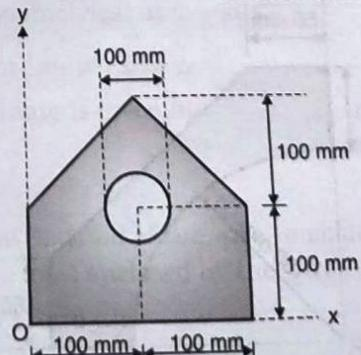

Fig. Q. 6
- 6 Determine the y-coordinate of centroid of the shaded area as shown in Fig. Q. 6